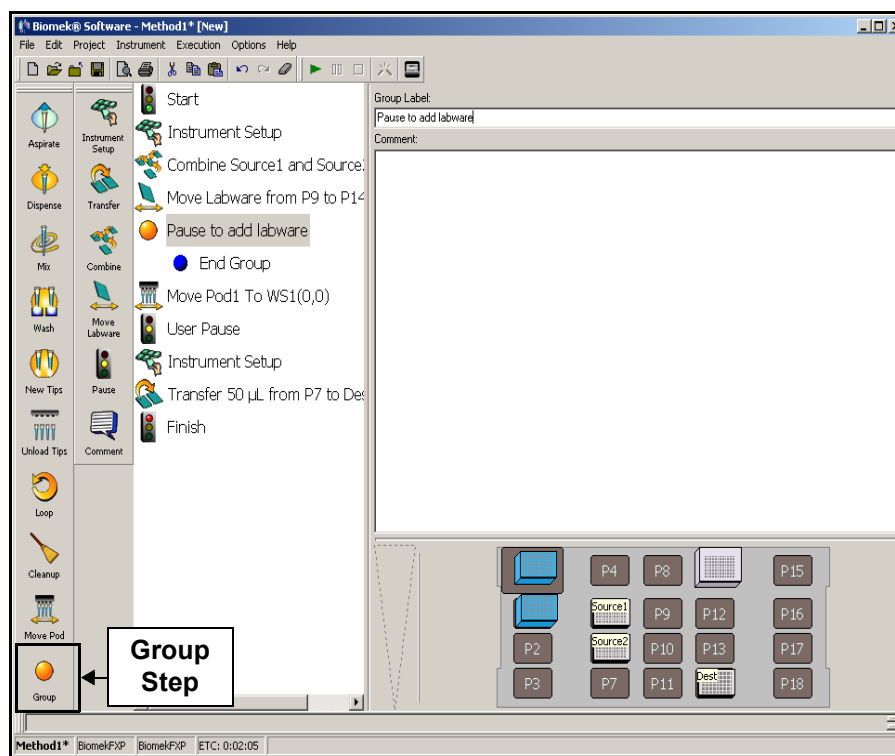
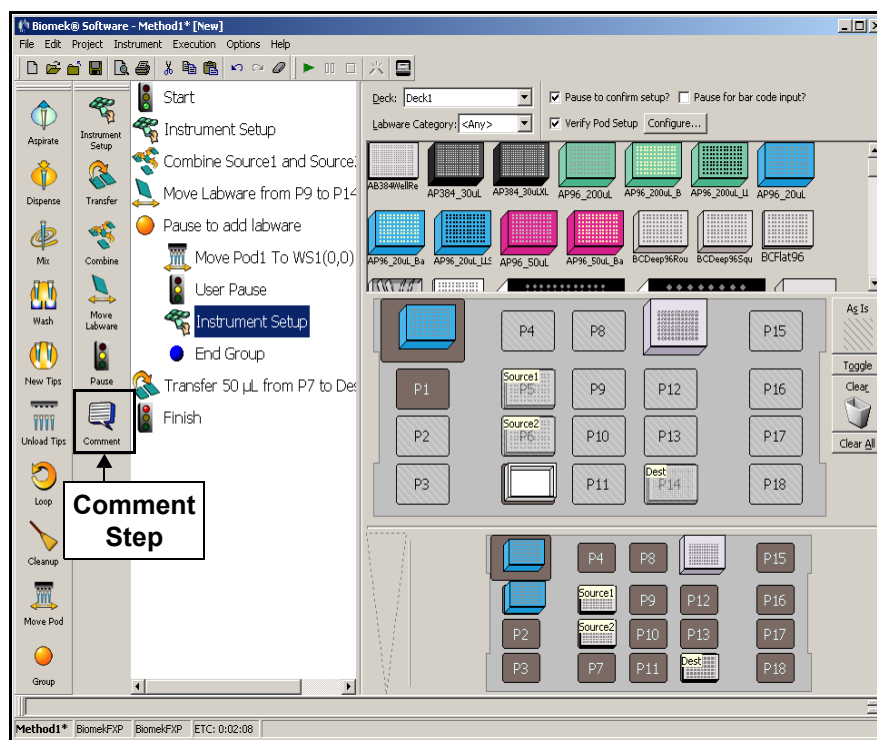

Figure 2-17. Configured Group step
Figure 2-18. Configured Group step with nested steps expanded
3. In **Group Label** of the step configuration, enter **Pause to add labware** (Figure 2-17). After the **Group** step is configured and another step later in the method is highlighted, it will be named in the Method View whatever it has been labeled in **Group Label**. In this example, the **Group** step will be named **Pause to add labware** in the Method View (Figure 2-18).
Like the Group step, the Comment (Figure 2-18) step does not initiate any actions on the instrument. It is used to provide descriptive information and notes in the Method View for a method. Refer to the *Biomek Software User's Manual*, Section 16.6, *Comment Step*.
- Repeat step 4 above for the User Pause, and then the second Instrument Setup step. Make sure the nested steps are in the order shown on Figure 2-18 since it's easy to get the steps out of order when you are dragging and dropping them.
Now the Move Pod, User Pause, and second Instrument Setup steps are nested logically within a Group step (Figure 2-18). You can expand and collapse this step as desired by double-clicking on the Group step.